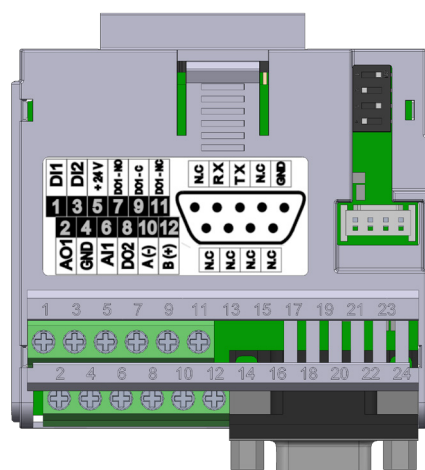

Figure 17.2: Plug-in module CFW500-CRS232
The CFW500-CRS232 plug-in module has Serial (1) interface through RS-485 port at terminals 10(A-) and 12(B+), as well as the Serial (2) interface through RS-232 port at standard connector DB9, see Figure 17.2 on page 17-1.